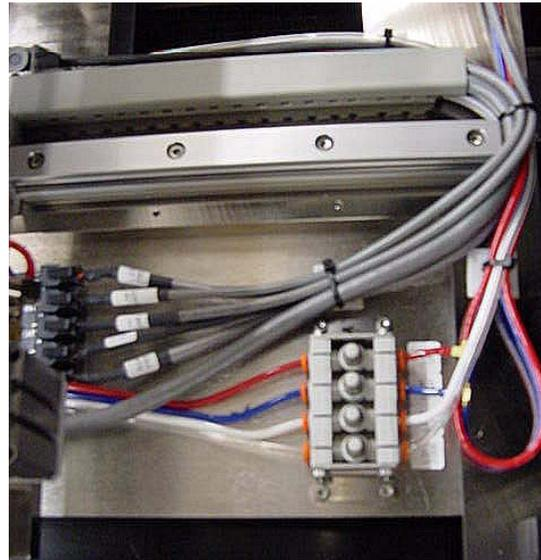

Figure 87. Air Flow Controls
1. Turn off air to the conveyor clamp by tightening the screws on the CLMP UP and CLMP DOWN flow controls located toward the back of the unit on the center conveyor section (Figure 87). If your system does not have flow controls on the unit, turn off the air pressure at the air regulator.